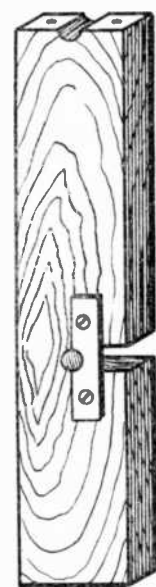

FIG 8
half inch thick, $1\frac{1}{2}$ inches wide and $7\frac{3}{4}$ inches high. It carries a cross piece (F) of equal thickness, of square section and $9\frac{1}{2}$ inches long. It is screwed fast to the standard and the hole for the shaft is divided between it and the cap or cross-piece of the standard as shown. The other standard, Fig. 8, is of the same dimensions as the first, and has a small block (C) screwed to its top, but has no cross arm. These have at the top the bearings for the shaft and a second hole (G) notched out $2\frac{1}{2}$ inches above the upper curves of the baseboard. The little plate of brass (G'), about $1\frac{1}{4}$ inches